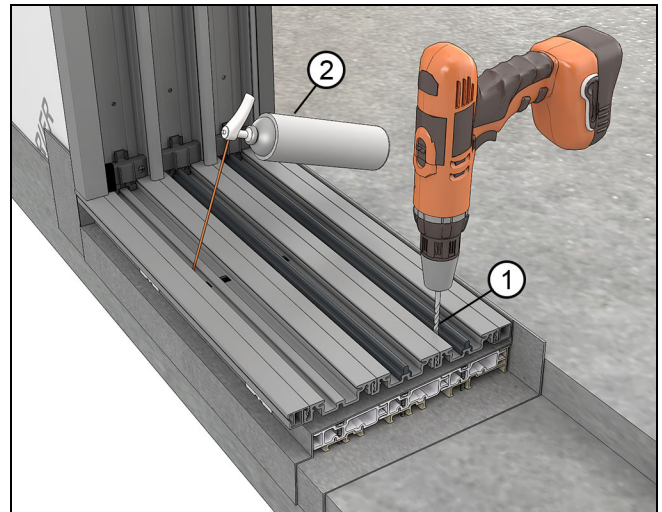

Figure 56 Drilling through HP stacked sill.
8. Position the frame to the correct depth and pre-drill into the HP sill near the stationary side. Drill through the sill slope with a 1/8" drill bit. Then blow out the hole with compressed air. Do not puncture the optional pre-panning if used. See Figure 56.